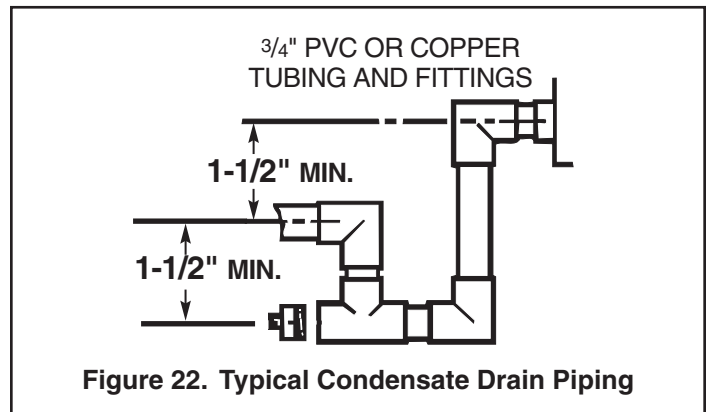

Figure 22. Typical Condensate Drain Piping
A 3/4-inch female NPT condensate drain connection is provided on the filter access panel end of the unit. Provide a trap and fill it with water before starting the unit to avoid air from being drawn through. Follow local codes and standard piping practices when running the drain line. Pitch the line downward away from the unit. Avoid long horizontal runs. See Figure 22.
3. Install a drip leg at least six (6) inches in depth next to the union as shown in Figure 22. This drip leg is required to collect any sediment that may be deposited in the line.